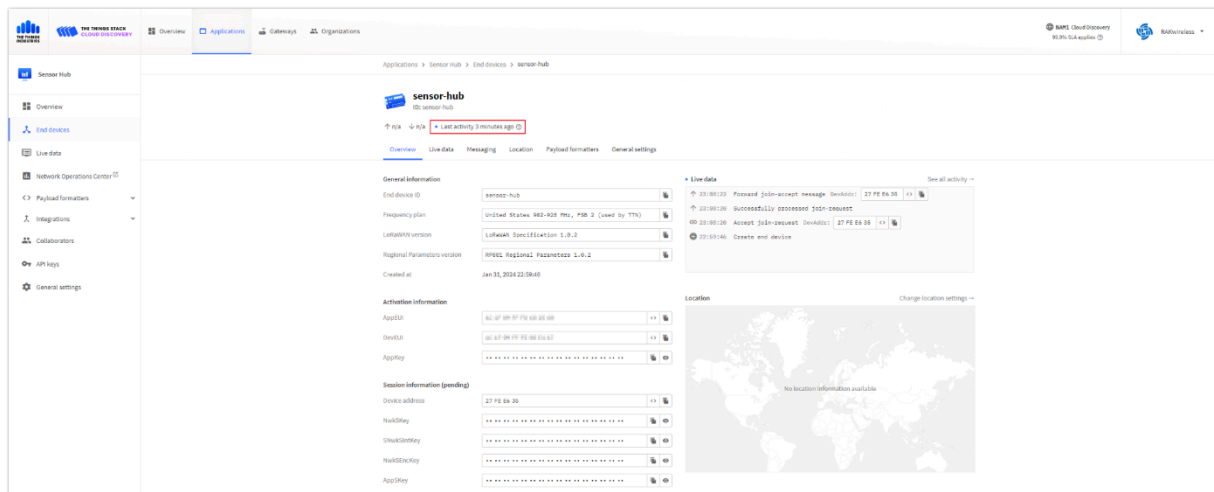

Figure 68: Successfully joined the TTNv3 network server
- As depicted in **Figure 68**, the Sensor Hub has successfully joined the TTNv3 network server.